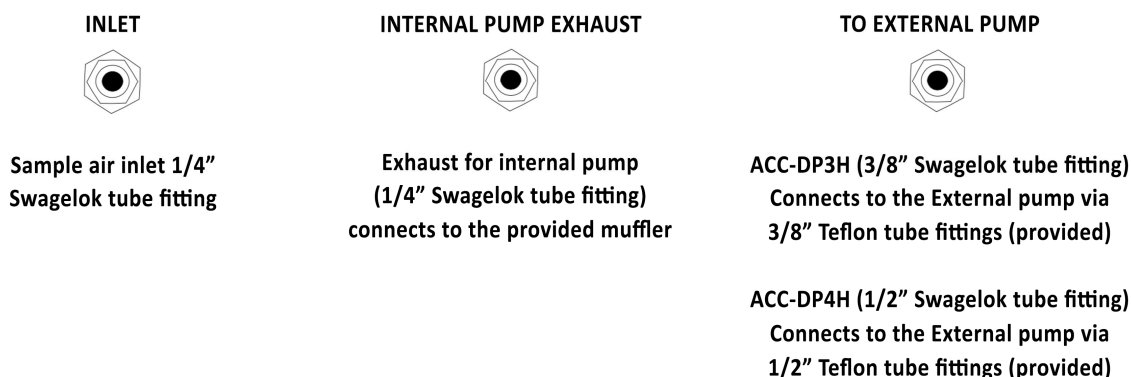

Figure 10: Gas Inlet/Outlets
Configurations will vary among analyzer types. These ports are shown in detail in Figure 10.
- a. Cap the Internal Pump Exhaust port with the provided ¼" Swagelok cap during Fast-Flow operation. (Figure 10)